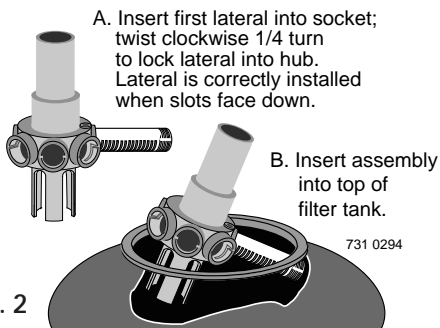

Fig. 2
**Assembly:** See Figures 2 through 5 for filter assembly.